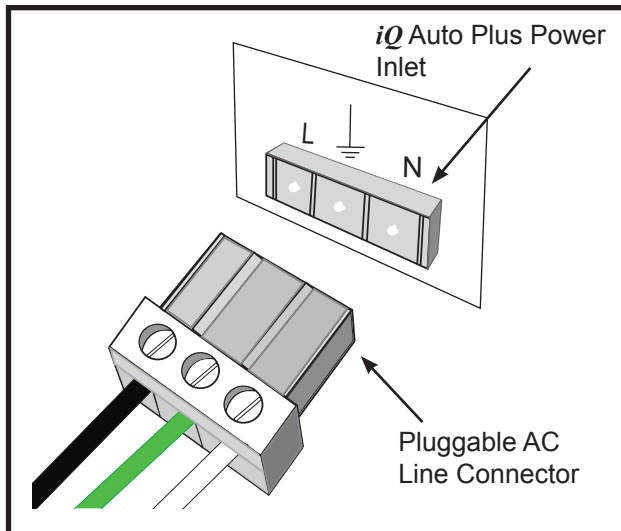

Figure 2-1 AC Line Connection
Figure 2-1 illustrates how the AC line is connected to the *iQ* Auto Plus generator.
1. Wire the AC line connector, and attach it to the generator's power inlet connector, matching the power source line, ground, and neutral with the generator's line, ground, and neutral connector pins - **A** in Figure 3-4. (See Figure 2-1 also.)